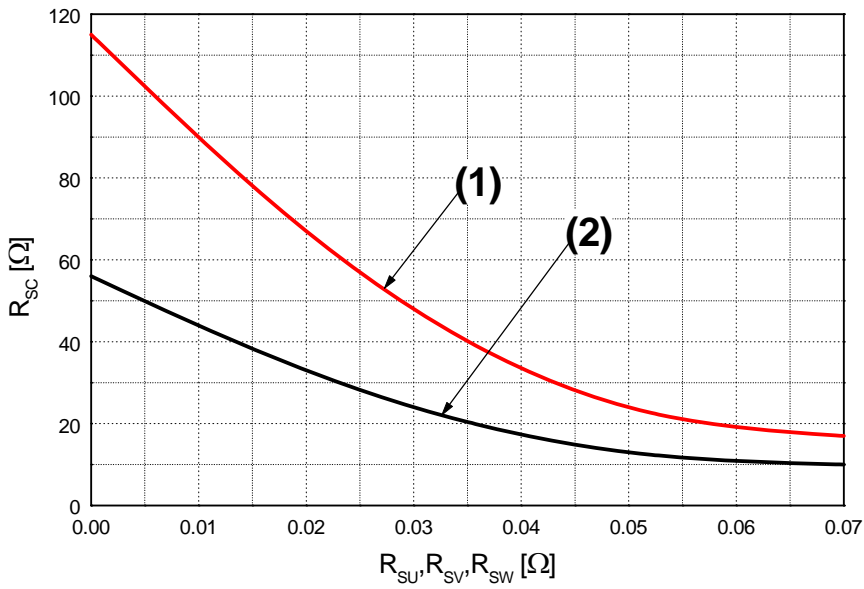

Fig. 7. R_{sc} Variation by change of Shunt Resistors (R_{SU}, R_{SV}, R_{SW}) for Short-Circuit Protection
- Short-circuit current protection is functioning only at the low-sides. It would be recommended that the value of the external sensing resistor (R_{SC}) should be selected around 56 Ω in order to make the SC trip-level of about 30 A at the shunt resistors (R_{SU}, R_{SV}, R_{SW}) of 0 Ω. For the detailed information about the relationship between the external sensing resistor (R_{SC}) and the shunt resistors (R_{SU}, R_{SV}, R_{SW}), please see Fig. 7.